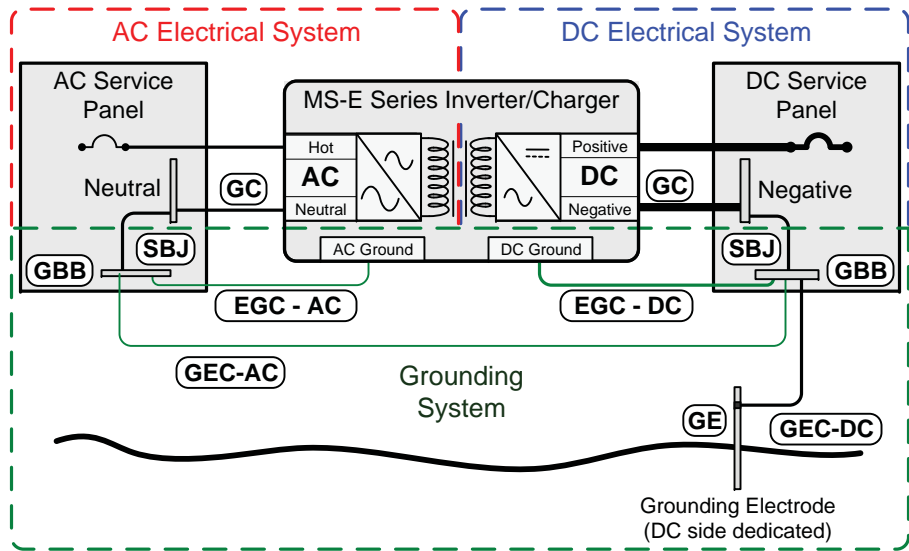

Figure 2-13, Single Connection to DC Ground Rod (Method 3)
**Method 3 (Figure 2-13):** The AC grounding electrode conductor (GEC-AC) is bonded to the DC ground point and the DC grounding electrode conductor (GEC-DC) is the *only connection* to the grounding electrode (GE), which must be a rod, pipe, or plate electrode. In this method, since there is only one connection to the ground rod, the DC grounding electrode conductor (GEC-DC) is not required to be larger than 13.3 mm2 (6 AWG) copper. The reasoning for allowing this smaller grounding electrode conductor is that it is only required to stabilize the system voltage with respect to earth, and the other properly-sized conductors in each electrical system will safely carry any fault currents if they occur.